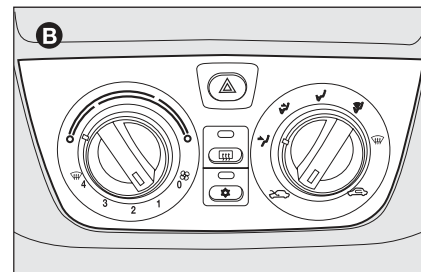

fig. 6
- ☐ with manual climate control system **B-fig. 6**;